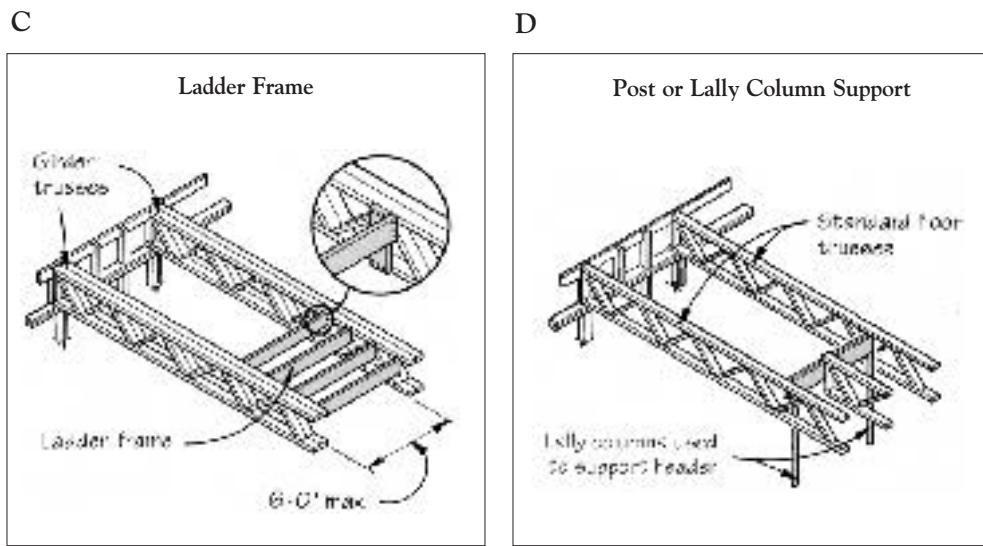

**Figure 4.** In order to work properly, a floor truss must be installed right-side-up, as labeled. An upside-down truss is a recipe for failure.
**Watch for tags.** Most trusses come with tags or labels that tell the builder how to install them. For instance, every truss should have a tag that shows which way is up (see Figure 4). Never ignore it. Each web member is designed to be in compression or tension, but not both. Installing a truss upside down defeats the design and will lead to failure.